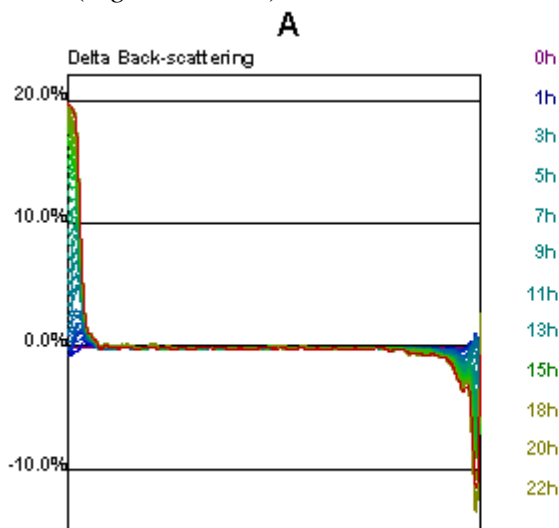

Figure 1
- × an important backscattering decrease at the top of both samples, characteristic of a clarification of the products in this zone (*Figure 1 and 2*).
- × a backscattering increase at the bottom of both samples, significant of the sediment layer formation (*Figure 1 and 2*).